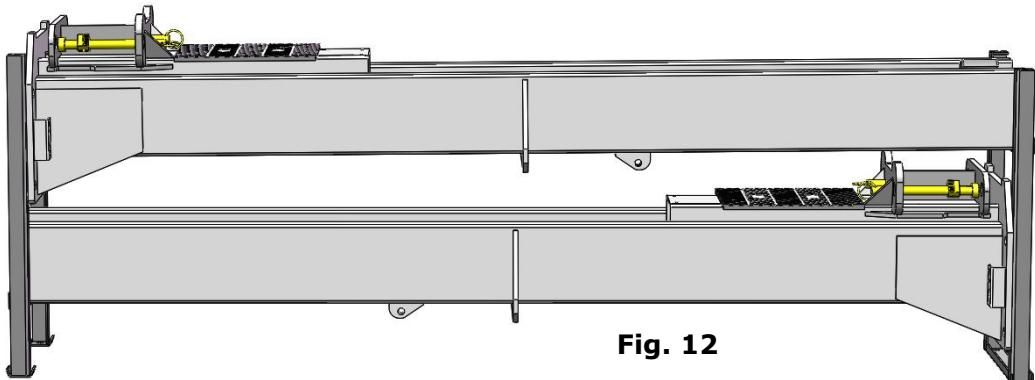

Fig. 12
3. Take out the parts on and inside the column of top layer , then move aside to the installation site. (See Fig. 12).